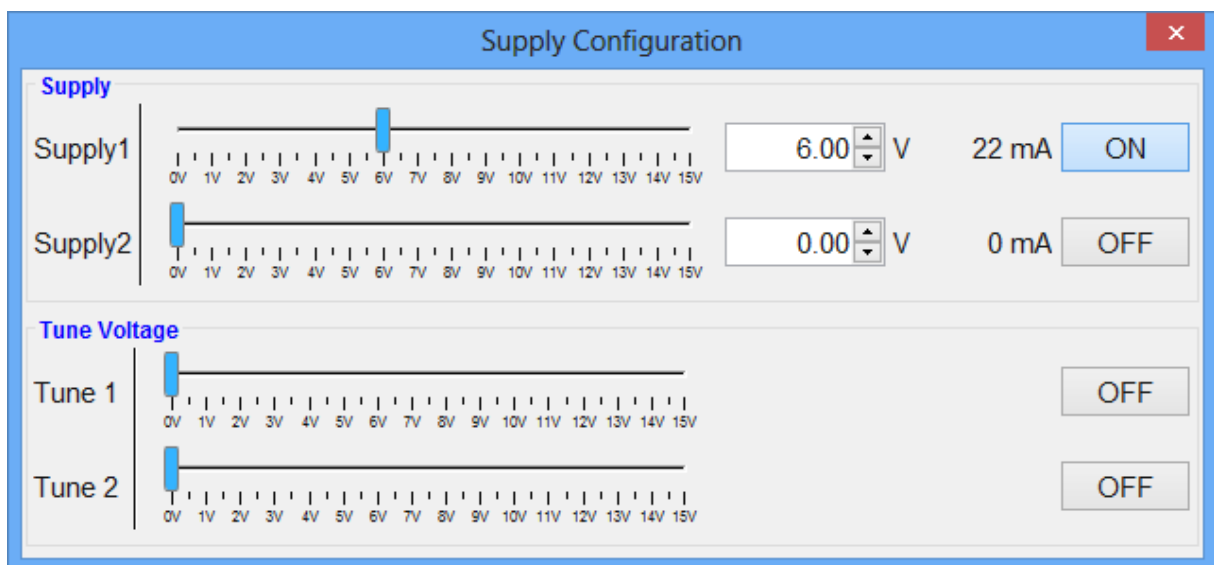

Figure 8 Supply dialog with the first channel enabled.
G) Configure Supply (option SUPPLY only): If available with the currently connected device, this button will open the supply dialog in which the output voltage on the two supply channels on the back panel can be configured (as shown in Figure 8). The supplies can be separately set, enabled/disabled and the current is measured continuously while this dialog is open. Depending on the reference setup, the external tune ports can be configured to output a constant voltage. This can be used for example as bias voltage for oscillators.